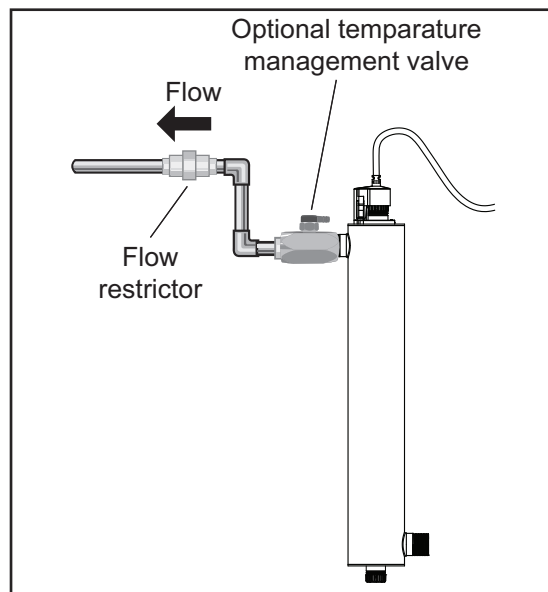

Figure 5 Flow Restrictor
3. Mount the system to the wall using the supplied clamps. Various connection methods can be used to connect the water source to the system, however union type connectors are recommended. The use of a flow restrictor will help to maintain the manufacturer's rated flow. The flow restrictor should be installed on the outlet port and is designed to be installed in one direction only. Ensure that the flow of the water matches the flow direction as indicated on the flow restrictor. Refer to Figure 5.